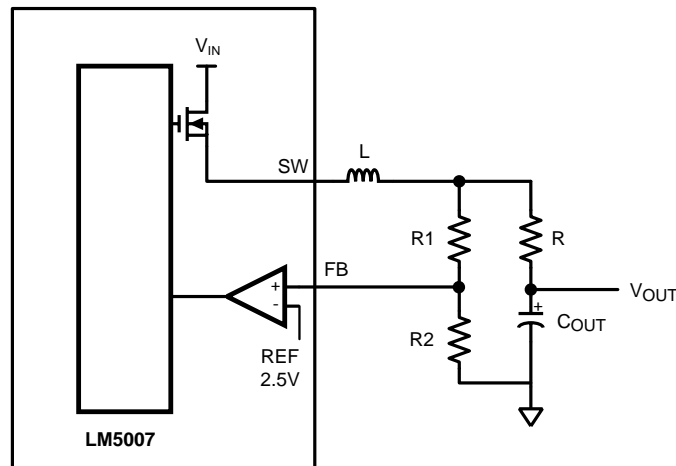

Figure 2. Low Ripple Output Configuration
The output voltage ( $V_{out}$ ) can be programmed by two external resistors as shown in Figure 2. The regulation point can be calculated as follows:
For applications where lower output voltage ripple is required the load can be connected directly to the low ESR output capacitor, as shown in Figure 2. The series resistor (R) will degrade the load regulation. Another technique for enhancing the ripple voltage at the FB pin is to place a capacitor in parallel with the feedback divider resistor R1. The addition of the capacitor reduces the attenuation of the ripple voltage from the feedback divider